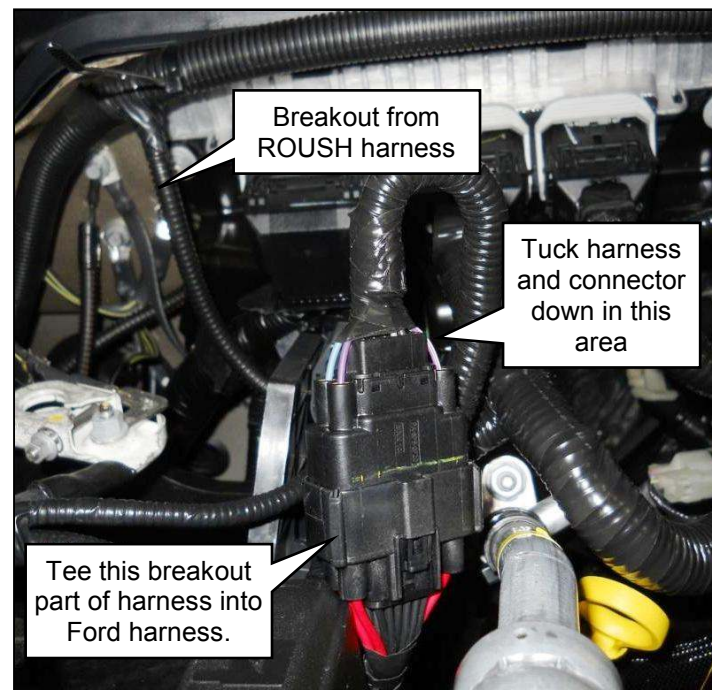

Figure 7.5
14. Insert and connect the in-line power pack connector (part of the underhood harness) into the Ford harness. **Figure 7.5.**